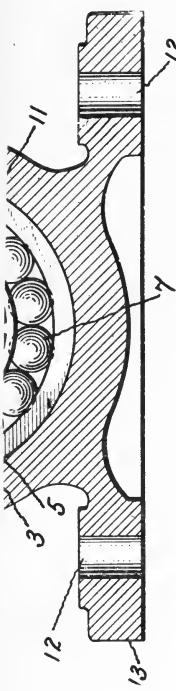

Fig. 3.
*Sections.*—Sometimes it is necessary to show the inner construction of an object and to show it clearly. Dotted lines are often used to show these invisible parts, but this often makes the drawing appear complicated, and makes it hard to read. To eliminate this confusion of lines an object is often represented as though it had been cut by a plane, all parts between this plane and the observer being considered as removed. This is called a section or a sectional view. Figs. 2 and 3 on Plate 5 are sectional views. If possible to show just where this cutting plane passes through the object, long broken lines are used. This is shown at X-X in Fig. 1, Plate 5, which shows where the section shown in Fig. 3 is taken.
It is not necessary to cross section bolts, shafts and cylindrical solids even though they are cut by the section. This is shown in Fig. 3 where the section is taken at X-X in Fig. 1, through centre of shaft (1), but the shaft is not shown cut. For representing different materials in section a standard chart is shown on Plate 6. Also a color chart, and the proper way to make fabrics is shown on the same plate.